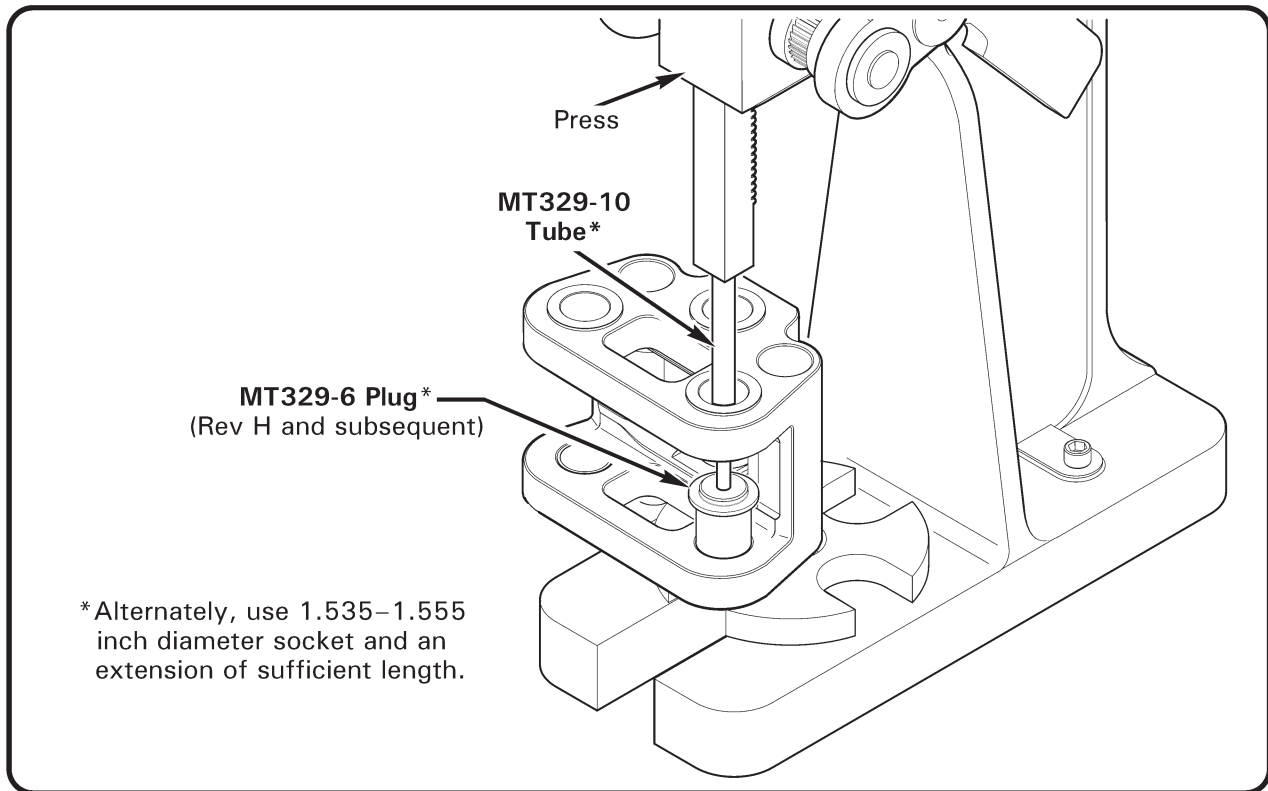

FIGURE 62-4A MAIN ROTOR HUB BEARING REMOVAL
2. Refer to Figure 62-4A. Verify tooling surfaces are smooth to avoid damaging hub and bearings. Press old bearing(s) out of hub using MT329-6 (Rev H or subsequent) plug & MT329-10 tube. Alternately, use 1.535–1.555 inch diameter socket and an extension of sufficient length.